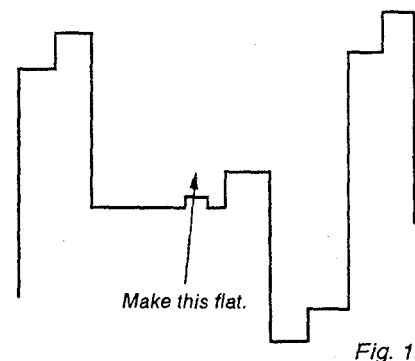

Fig. 15
- 6) Adjust PHASE NTSC 358 NOR so that the output waveform burst section is a straight line. (Fig. 15)
- 2) Adjust in the same manner as in 8-1 above, but adjust with **PHASE NTSC 358 ACC OFF**. (Fig. 15)